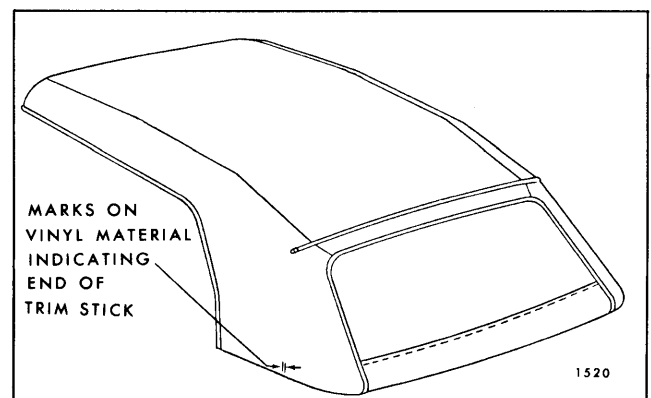

Fig. 13-32—Marking Top Material
21. Using a pencil, mark both ends of rear and rear quarter trim sticks on vinyl surface of top material as shown in Figure 13-32. Reference